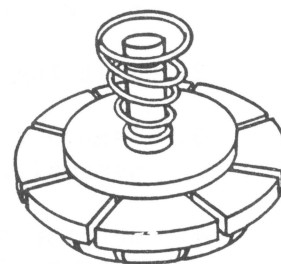

FIGURE 9
4. Remove the collet hub assembly and retain the spring and washer (Figure 9). Remove spring carefully, taking care not to stretch it.